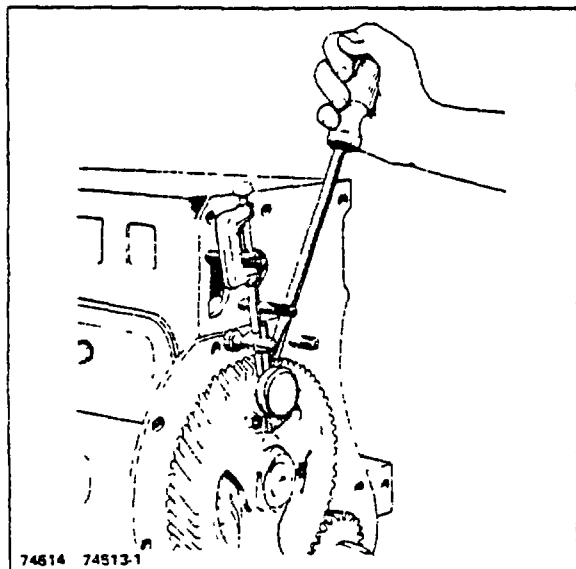

Figure 10-7. Checking Camshaft End Play
4. Check camshaft end play as shown in Figure 10-7. Refer to TOPIC 1. FITS AND TOLERANCES section for the correct dimension.